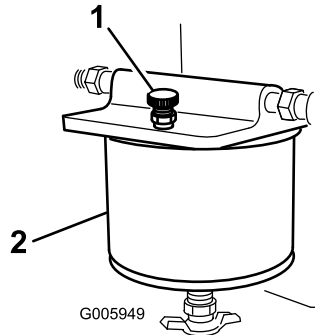

Figure 33
5. Open the bleed screw on top of the fuel filter to fill the bowl with fuel (Figure 33).